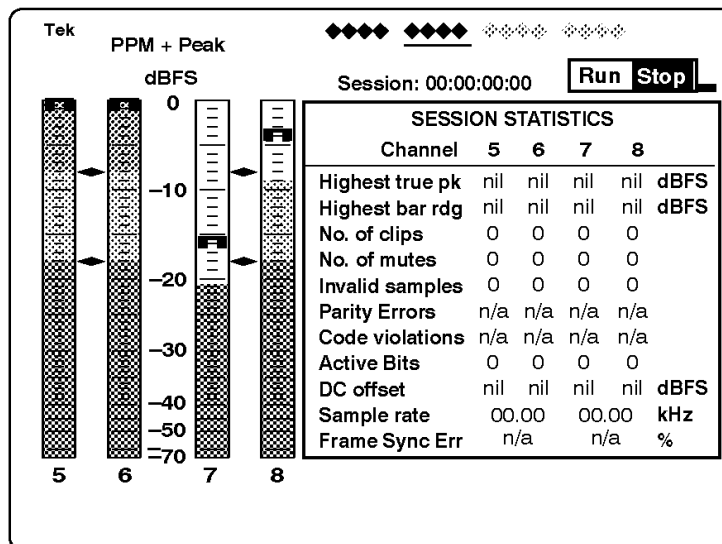

Figure 37: The Audio view with digital video input selected
6. Press the **CLEAR MENU** button to exit the menu hierarchy; then press **VIEW:AUDIO**, if necessary, to select the audio Phase or Session display. Notice that sixteen diamonds, arranged in four groups of four, now occupy the top of the display as shown in Figure 37. The diamonds represent the four groups of four audio channels defined in SMPTE 272M. Bright diamonds indicate active channels; a white underline indicates the channel group that you have selected through the Input submenu. The numbers of the selected channels appear under the meter bars.